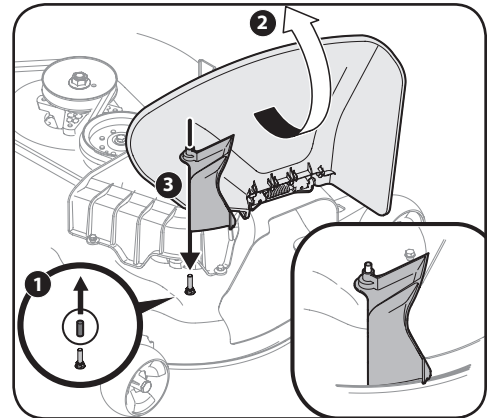

Figure 4-18
- Remove the deck pin rubber protective cap, 1 in Figure 4-18.
- Raise the chute deflector (2 in Figure 4-18) on the deck and hold it while you install the chute adapter (731-10133) (3), onto the deck as shown in Figure 4-18.